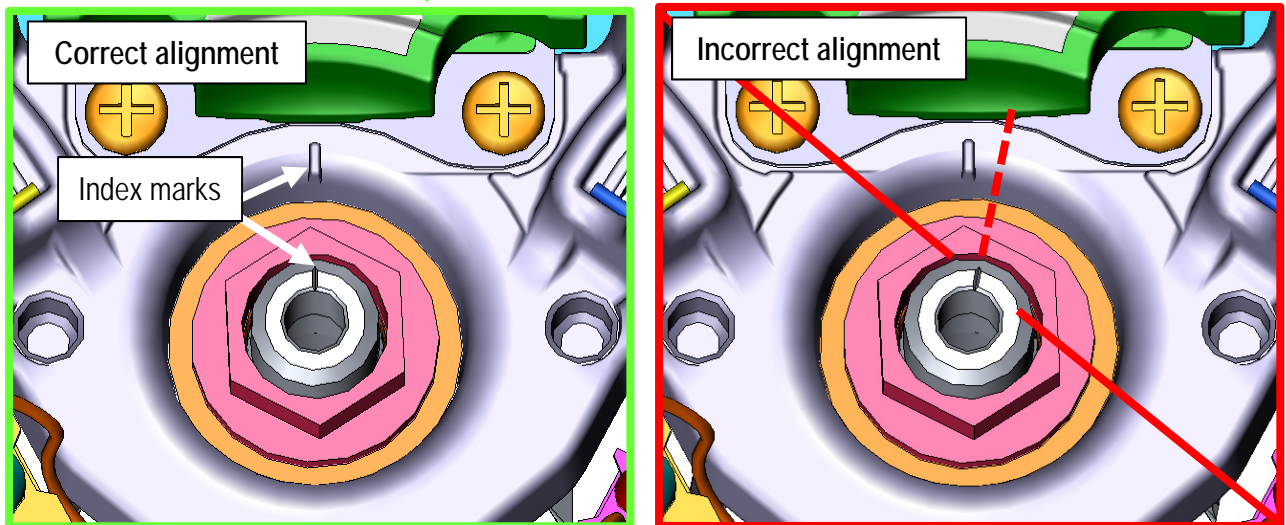

Figure 2
7. Verify that the alignment index mark on the steering shaft is in line with the index mark on the steering wheel, as shown in Figure 2.
- If the two (2) index marks are not in line, remove the steering wheel and realign as shown in Figure 2.